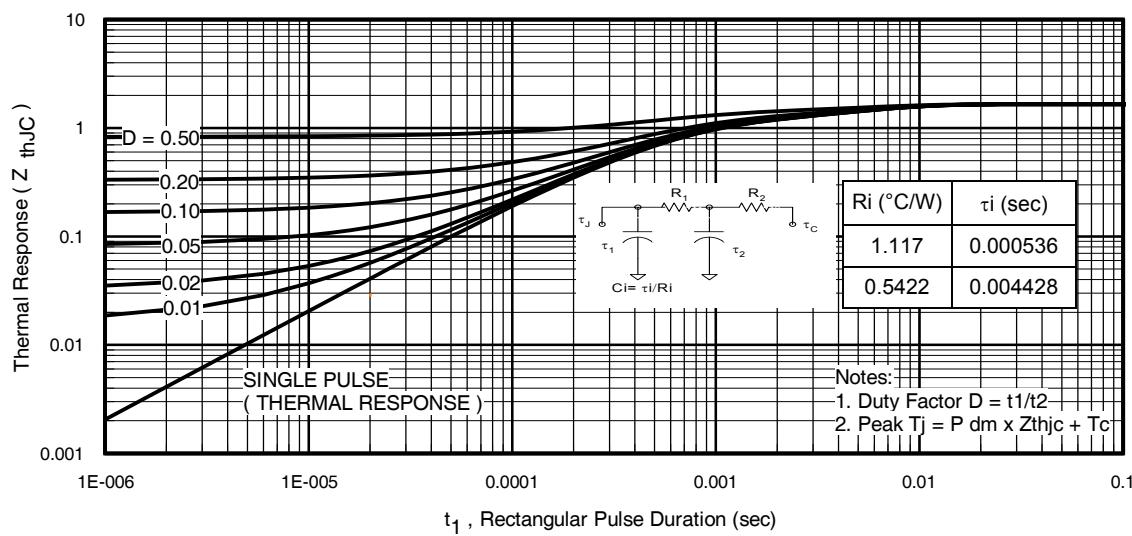
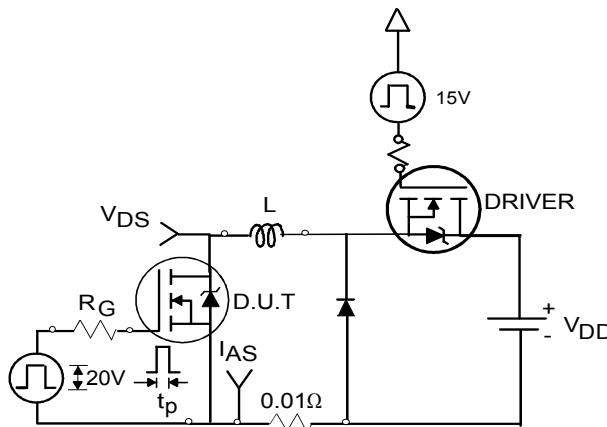

Fig 11. Maximum Effective Transient Thermal Impedance, Junction-to-Case
Fig 12a. Unclamped Inductive Test Circuit
- ① Repetitive rating; pulse width limited by max. junction temperature. (See fig. 11)
- ② Limited by T_{Jmax} , starting $T_J = 25^\circ\text{C}$, $L = 0.09\text{mH}$, $R_G = 25\Omega$, $I_{AS} = 42\text{A}$, $V_{GS} = 10\text{V}$. Part not recommended for use above this value.
- ③ Pulse width $\leq 1.0\text{ms}$; duty cycle $\leq 2\%$.
- ④ $C_{\text{oss eff.}}$ is a fixed capacitance that gives the same charging time as C_{oss} while V_{DS} is rising from 0 to 80% V_{DSS}
- ⑤ Limited by T_{Jmax} , see Fig.12a, 12b, 15, 16 for typical repetitive avalanche performance.
- ⑥ This value determined from sample failure population, starting $T_J = 25^\circ\text{C}$, $L = 0.09\text{mH}$, $R_G = 25\Omega$, $I_{AS} = 42\text{A}$, $V_{GS} = 10\text{V}$.
- ⑦ When mounted on 1" square PCB (FR-4 or G-10 Material). For recommended footprint and soldering techniques refer to application note #AN-994
- ⑧ R_θ is measured at T_J approximately 90°C .
3. Equation below based on circuit and waveforms shown in Figures 12a, 12b.